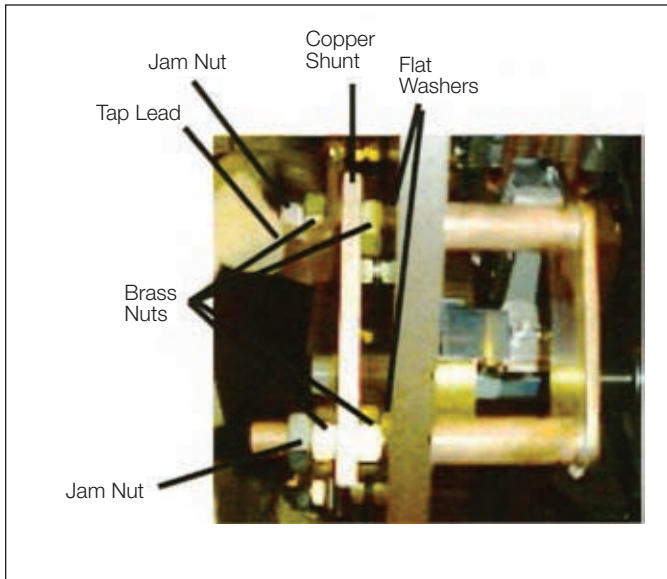

Figure 2.
Loosen and remove two (2) steel jam nuts, two (2) brass nuts, tap lead, copper shunt (tap number is stamped on the shunt), two (2) brass nuts and two (2) steel flat washers. See Figure 2.